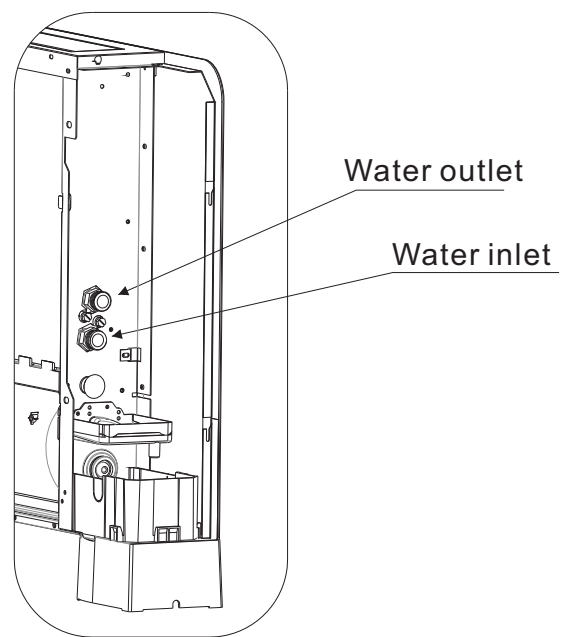
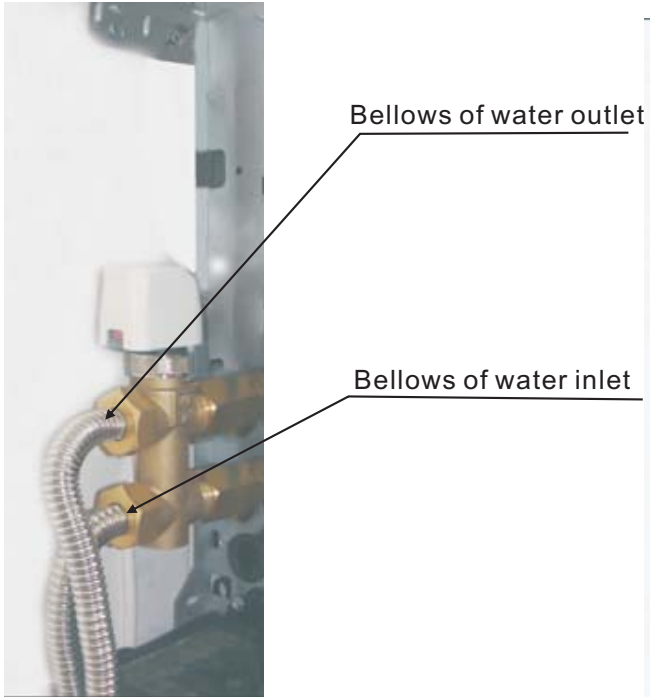

Fig.14
Fig. 15
4.4.1 Refer to fig. 14 and fig. 15 to connect the inlet and outlet lines. The hydraulic lines and joints must be thermally insulated.